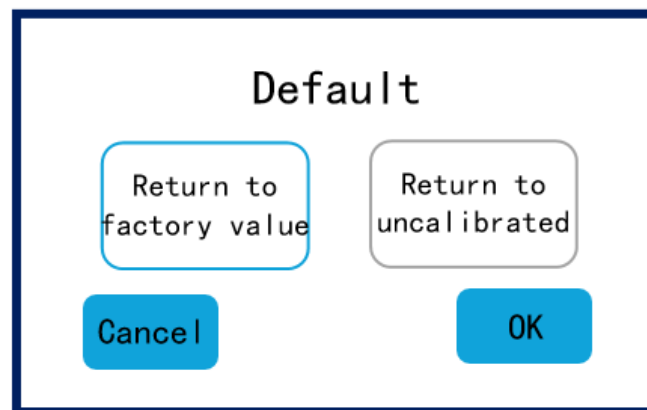

Fig 4.9 Restore Default Interface
**Restore default:** Added the option to restore the temperature value to the factory value state and restore it to the uncalibrated state, as shown in Figure 4.9. If modifying the temperature value by misoperation, users can restore the temperature value to the factory default value. If "Default" has no effect, modify any temperature value and try again.